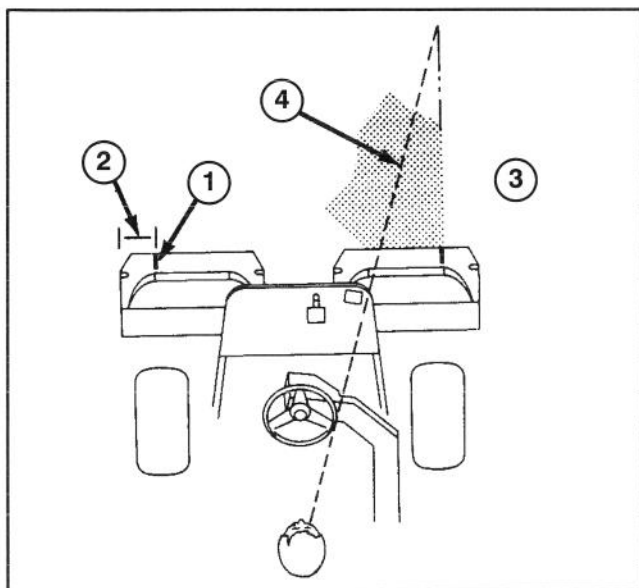

Figure 25
2. Either place a strip of white tape or paint a line onto each basket paralleling the outer edge of each basket (Fig. 25)